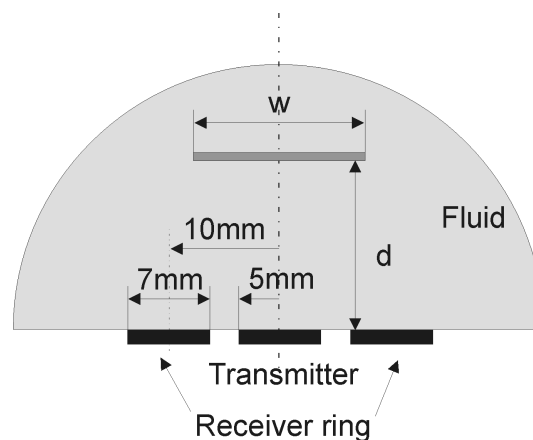

Figure 1: Ultrasonic distance sensor, principle and dimensions
This axis-symmetrical sensor consists of a circular transmitter and a ring-shaped receiver. The transmitter launches Hanning-windowed ultrasonic sine bursts at 50 kHz with a total force F of 1 kN. The waves are reflected at obstacles of variable width w at different distances d and are afterwards detected by the receiver ring (see Fig. 1).
- 1.1. Model the geometry as depicted in Fig. 1. Keep the width w and the distance d of the obstacle variable. The transmitter may be modeled as a pure boundary condition, i.e., the excitation signal can be applied directly to the interface line.